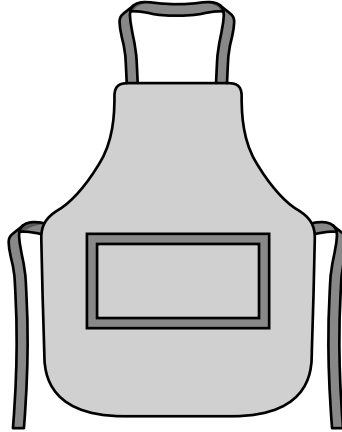

Fig. 1
- 1 Fig. 1 shows an apron made from PVC coated cotton fabric.